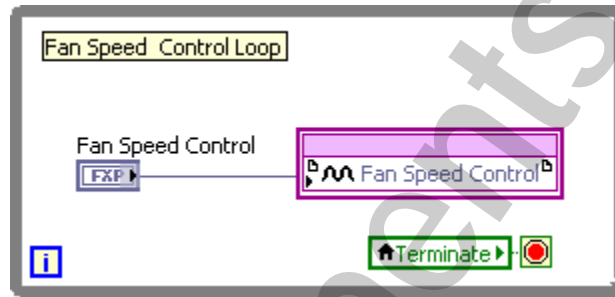

Figure 6-6. Accelerometer.vi – Fan Speed Control Loop
9. Modify the Fan Control Loop, as shown in Figure 6-6, using the following items: